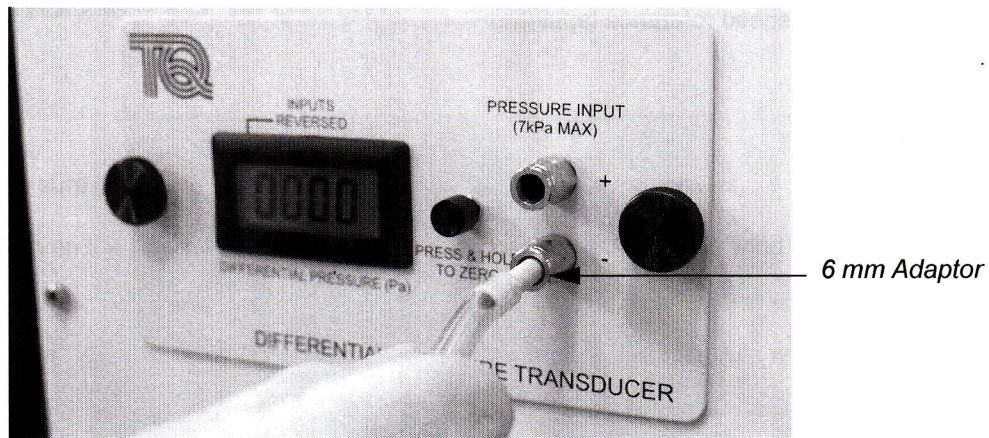

Figure 6 Fit the 6 mm adaptors to the pipework, then insert the adaptors into the sockets
5. Two 6 mm adaptors are supplied with the AFA5 module. Fit these adaptors to the ends of the pipework, then insert the adaptors into the pressure sockets of the AFA5 module (see Figure 6).